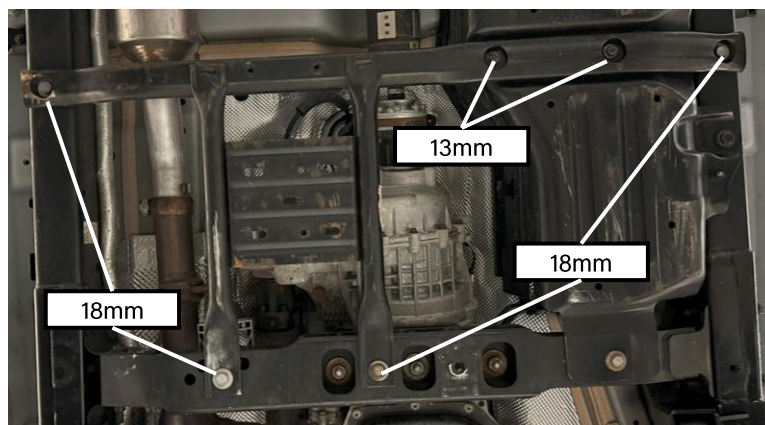

Figure 15: Transfer case skid plate bolts to remove
- ❑ Remove the transfer case skid plate using the socket sizes noted if it is not removed already (Figure 15)
- ❑ Remove the (6) bolts holding the gas tank in place and **slowly lower the tank 3-4 inches using the supporting jack stands**.